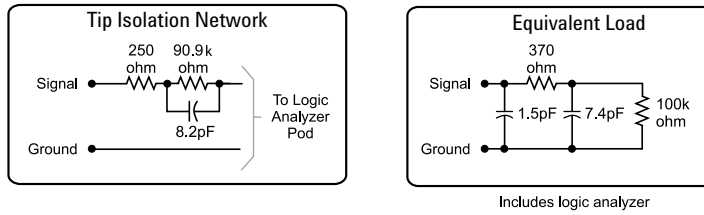

Figure 3. Probe tip isolation network and equivalent load
The standard probing system consists of IC clips, probe leads, probe housing and probe cable. Because it is passive, the standard probing system is smaller, lighter, and much easier to use than active probing systems. This passive probing system is similar to a probing system used on a high frequency oscilloscope. It consists of an isolation network (as shown in figure 3) at the probe tip and a shielded resistive transmission line. The advantages of this system are:
- High input impedance. See figure 3.